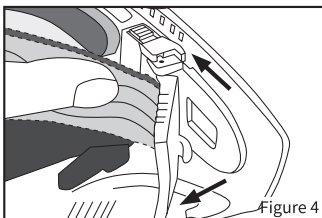

Figure 4
- 1.The gray frame retention clip should be in the forward position and the lens locking hooks should be pivoted 45 degrees inward prior to installing the lens. (See figure 4)